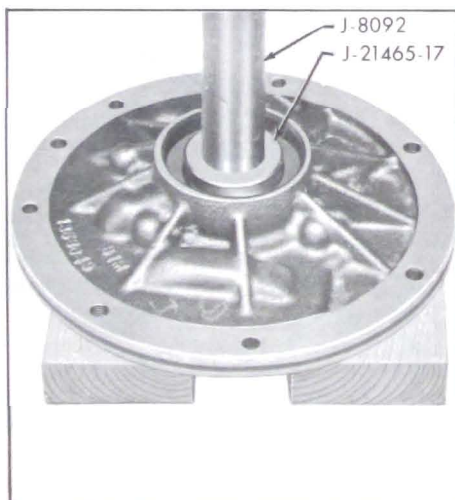

Figure 5-198
1. Using Tool J-21465-17 press new bushing into pump body until it is flush with top of pump hub. See Figure 5-198.